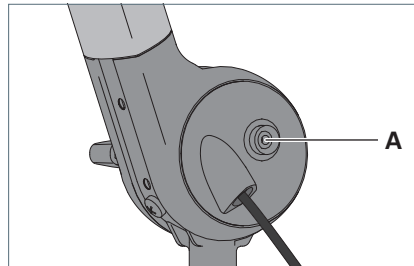

Fig. 7: Pushbutton for grounding cable.
- ▶ Connect one end of the provided grounding cable to the pushbutton **A** of the luminaire, see Fig. 7.